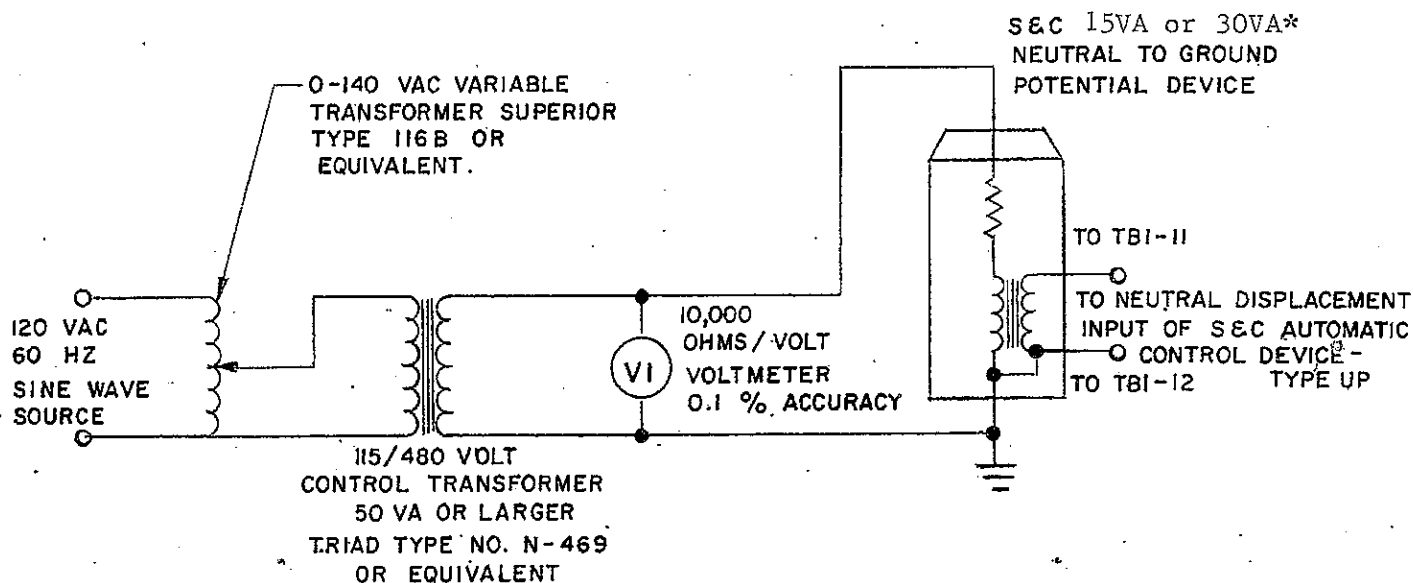

FIGURE 1 VOLTMETER MODULE CALIBRATION, TEST SETUP
4. Set up test circuit per Figure 1.